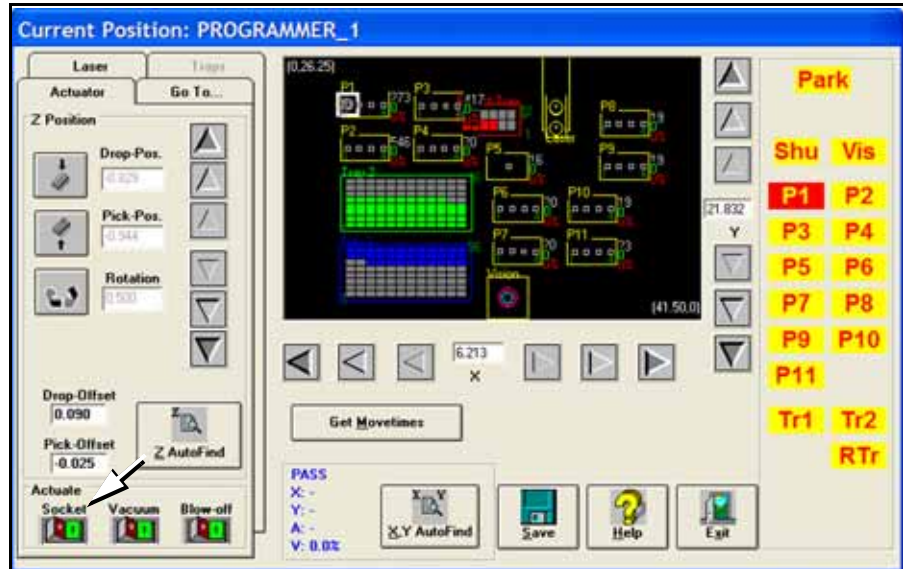

Figure 4-3: The Gantry window shows the Socket Actuator air ON (for programmer 1). PS588 shown.
- 3a. On the Gantry window Actuator tab, click the Socket Actuator to the ON position; see Figure 4-3. The Socket Actuator opens (moves down).